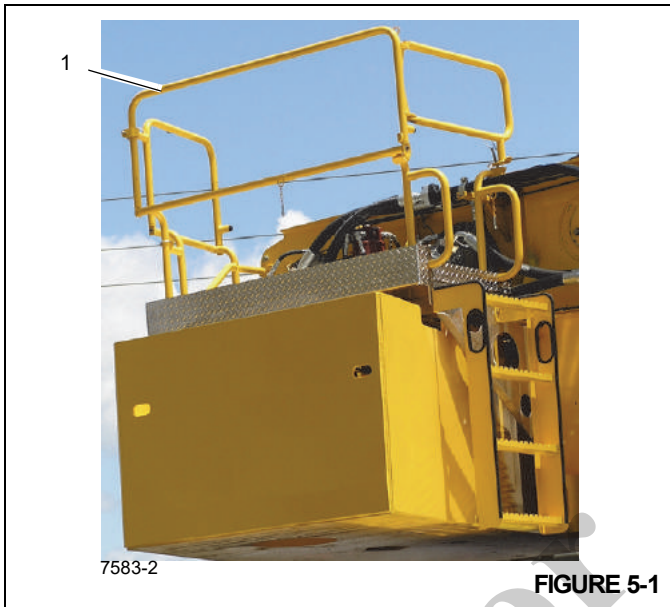

FIGURE 5-1
Use the hoist access platform (1) (Figure 5-1) when working in the hoist area.